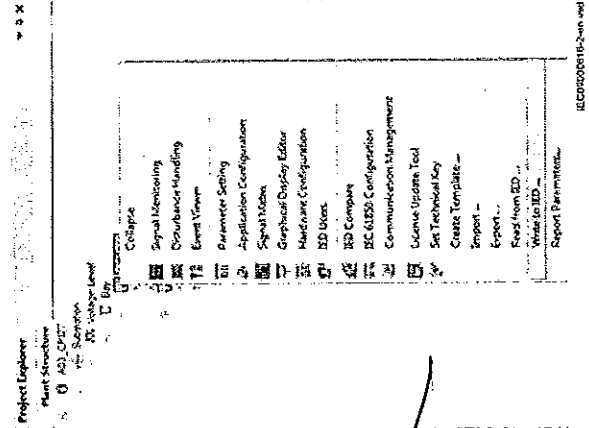

Figure 69: Common write menu
6. Write the configuration to the IED, see Figure 69.